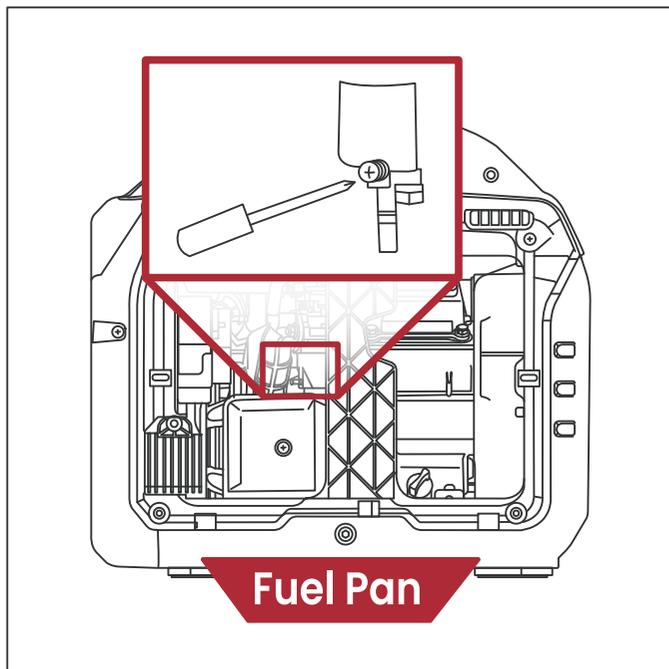

Fig.30
- 4 Loosen the float bowl drain screw until fuel is seen draining from the float bowl (see **Fig.30**).